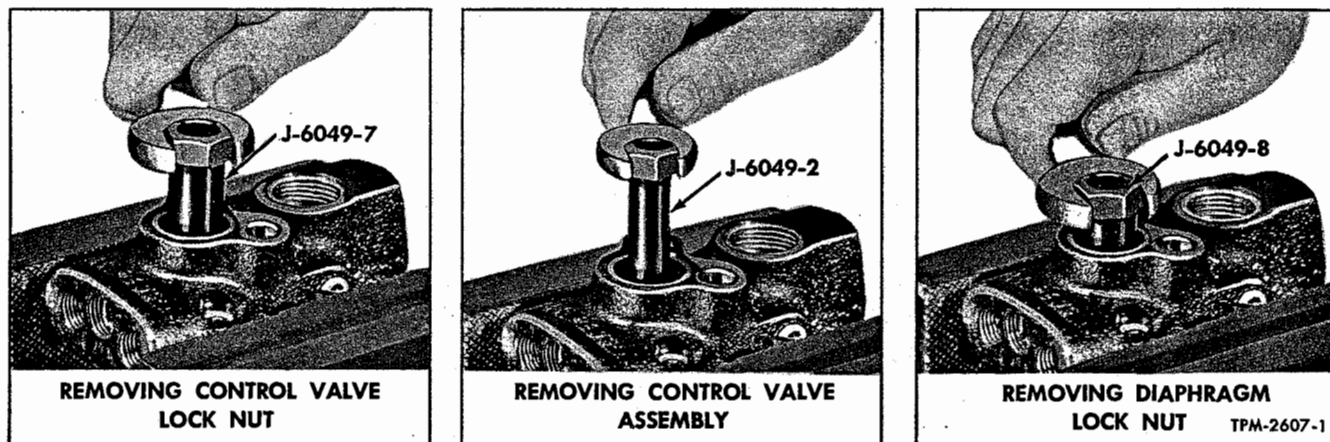
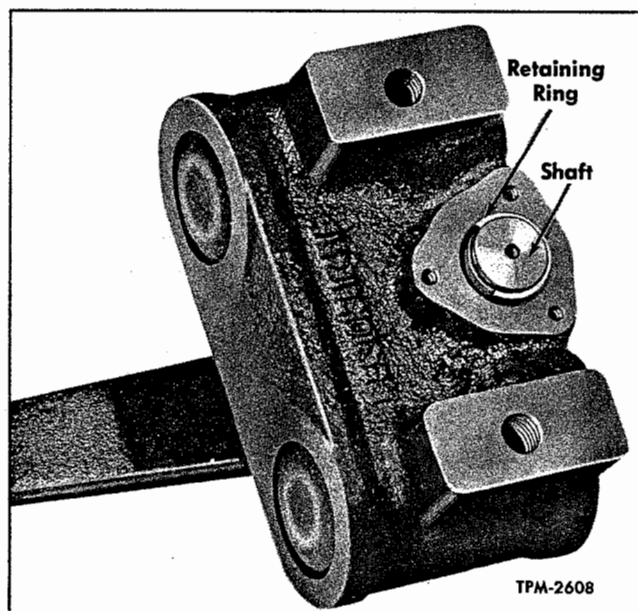

Figure 20—Use of Special Height Control Valve Wrenches
Figure 21—Shaft Retaining Ring Exposed
1. Remove four screws (6 and 13) attaching valve housing (10) to damper body (26). Lift off valve housing and gasket (18).
3. Remove two control valve cover nuts (4) and gaskets (3).
4. Using control valve lock nut wrench J-6049-7 (fig. 20), unscrew control valve lock nuts (2).
5. Remove two control valve assemblies (1), using control valve wrench J-6049-2 (fig. 20).
6. Using diaphragm lock nut wrench J-6049-8 (fig. 20), remove two diaphragm retaining lock nuts (7). Lift out diaphragm washers (8) and valve actuating diaphragm and plungers (9) with long-nosed pliers.
7. Remove check valve cover nut (14) and gasket (15). Remove check valve spring (16) and check valve (17).
8. Remove exhaust silencer retainer (19) and exhaust silencer (20).
9. Remove filler plug (12) and gasket (11).
10. Loosen needle valve lock nut (31), then remove needle valve (30) and "O" ring seal (29).
11. Remove three end cover screws (21) and lock washers (22). Remove shaft end cover (23) and gasket (24).
12. Turn actuating arm (32) to position at right angle to damper body. Tap lightly on arm end of shaft until shaft retaining ring (25) is exposed (fig. 21). Remove retaining ring from shaft.
6. Push shaft through body far enough to expose retaining ring groove and install retaining ring (fig. 21). Turn arm parallel to body, then pull shaft back until tappets snap against flats on shaft.
7. Install shaft end cover (23) and gasket (24) and secure with three screws (21) and lock washers (22).
8. Install "O" ring seal (29) on needle valve (30). Thread needle valve carefully into damper body until seated, then back off two turns. Tighten lock nut (42) finger-tight.
9. Place actuating diaphragm and plungers (9) in valve housing and secure with retaining washer (8) and lock nut (7). Use wrench J-6049-8 to tighten lock nut to 30 inch-pounds torque. NOTE: Torque